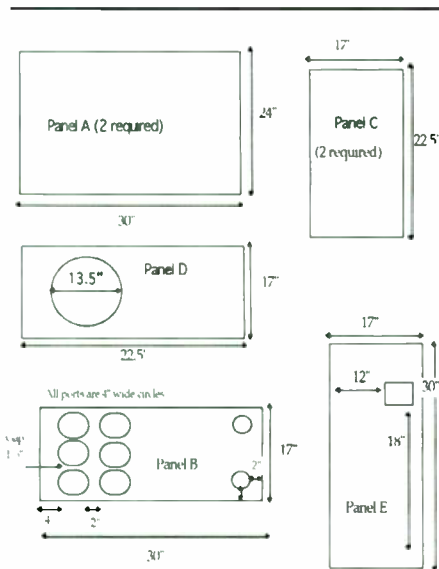

FIGURE 5: Panels required for construction. All these panels can be cut from a single sheet of 3/4" plywood.
power tools. *Figures 5 and 6* show details on panel size and placement. I used 3/4" AB grade plywood for its great strength and light weight. If you plan to make this cabinet part of a permanent installation, make it out of MDF, but otherwise save yourself (and your back) considerable grief and go with the plywood. If you are feeling ambitious, you can angle the internal baffle to make the internal walls nonparallel, but I think any internal reflections would be above the cutoff of the active crossover (200Hz, 24dB/octave). I used 1 1/2" drywall screws and Liquid Nails to join the panels together (per Robert Spear and Alex Thornhill's suggestion in "Tools, Tips, & Techniques," *SB 6/91*). These materials make for a very sturdy cabinet.
3. Cut the speaker hole into panel D and then mark and drill the holes for the driver (use the driver itself as a template). Attach it to the bottom board (*Fig. 5*).